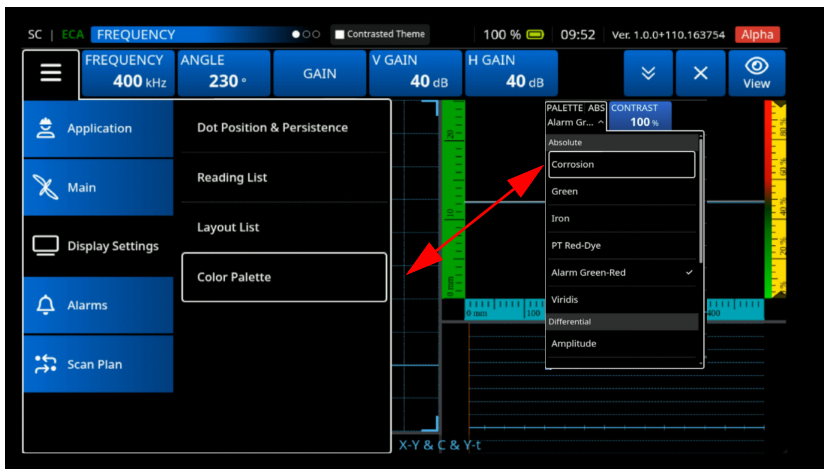

Figure 4-83 Select Color Palette
5. Select **Color Palette** and then select the **Corrosion** palette. (See Figure 4-83 on page 180).